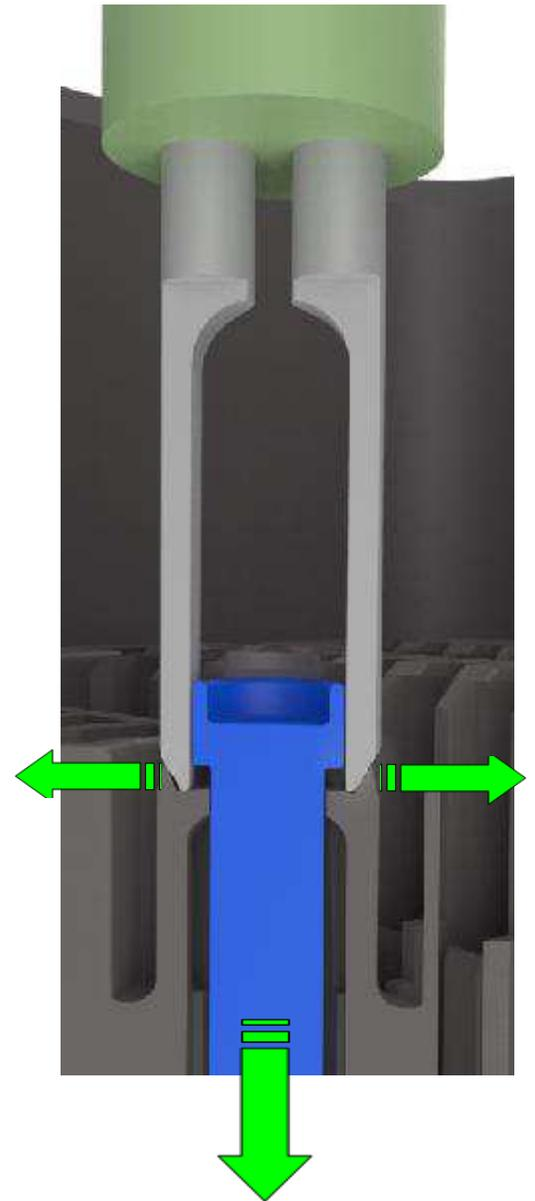

Figure 49
3. Using the MATE-AX service tool, push straight in to deflect the plastic terminal latches within the connector housing. See Figure 49.